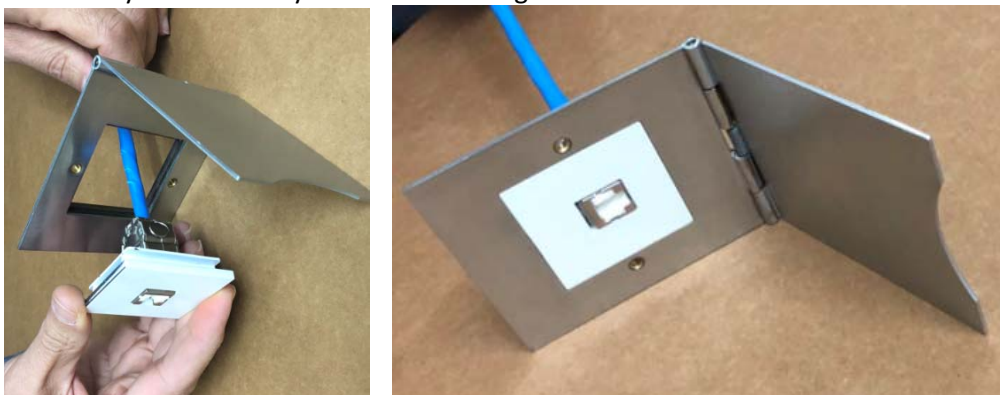

Figure 5.
**STEP#4-** Have the assembly finished as shown in (Figure 5). By inserting the snapped set inside the MK face plate opening. Notice that the socket port is flushd with the surface of the “MK-3M fit up”, connected firmly and with very aesthetic finishing!